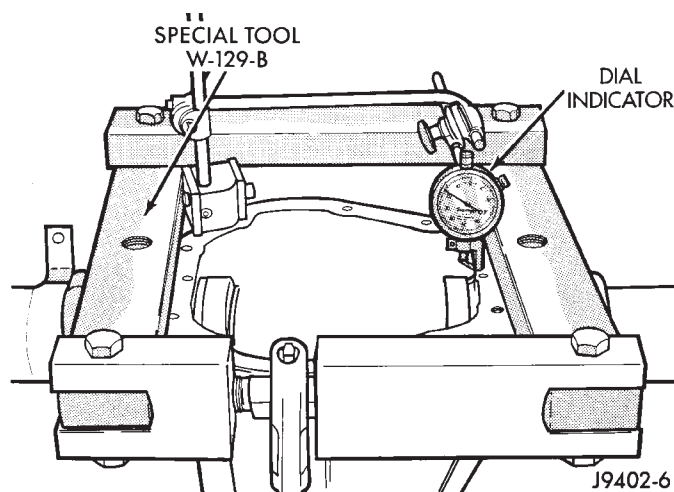

Fig. 16 Spread Differential Housing
(1) Position Spreader W-129-B with the tool dowel pins seated in the locating holes (Fig. 16). Install the holddown clamps and tighten the tool turnbuckle finger-tight.
(2) Install a pilot stud at the left side of the differential housing. Attach Dial Indicator to housing pilot stud.
stud. Load the indicator plunger against the opposite side of the housing (Fig. 16) and zero the indicator.
(3) Spread the housing enough to install the case in the housing. Measure the distance with the dial indicator (Fig. 16).
(4) Remove the dial indicator.